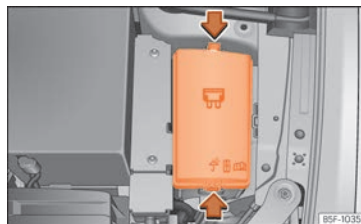

Fig. 51 In the engine compartment: fuse box cover.
- Press the locking tabs to release the fuse box cover »» Fig. 51.